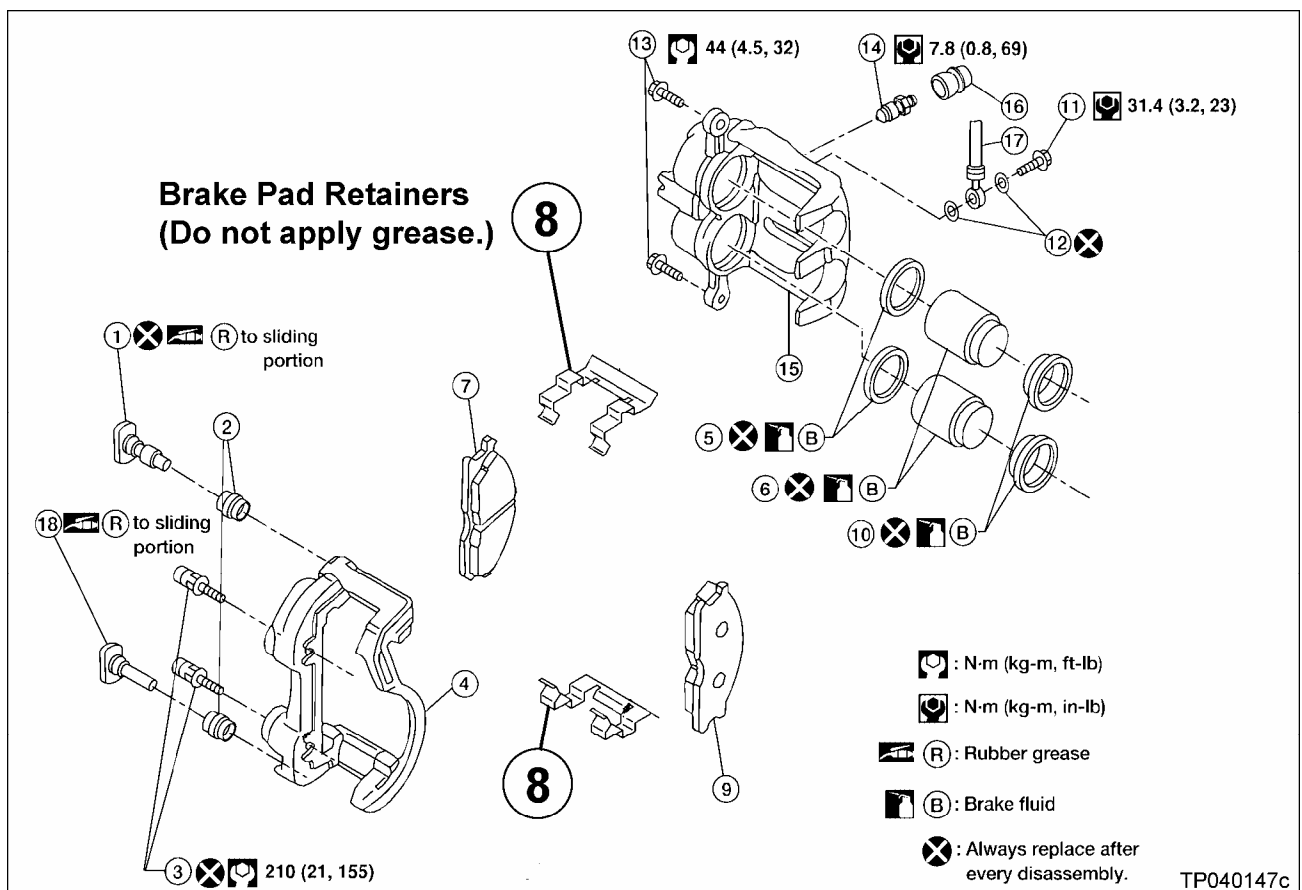

Figure 7
8. Install the new brake pad retainers (see Figure 7).